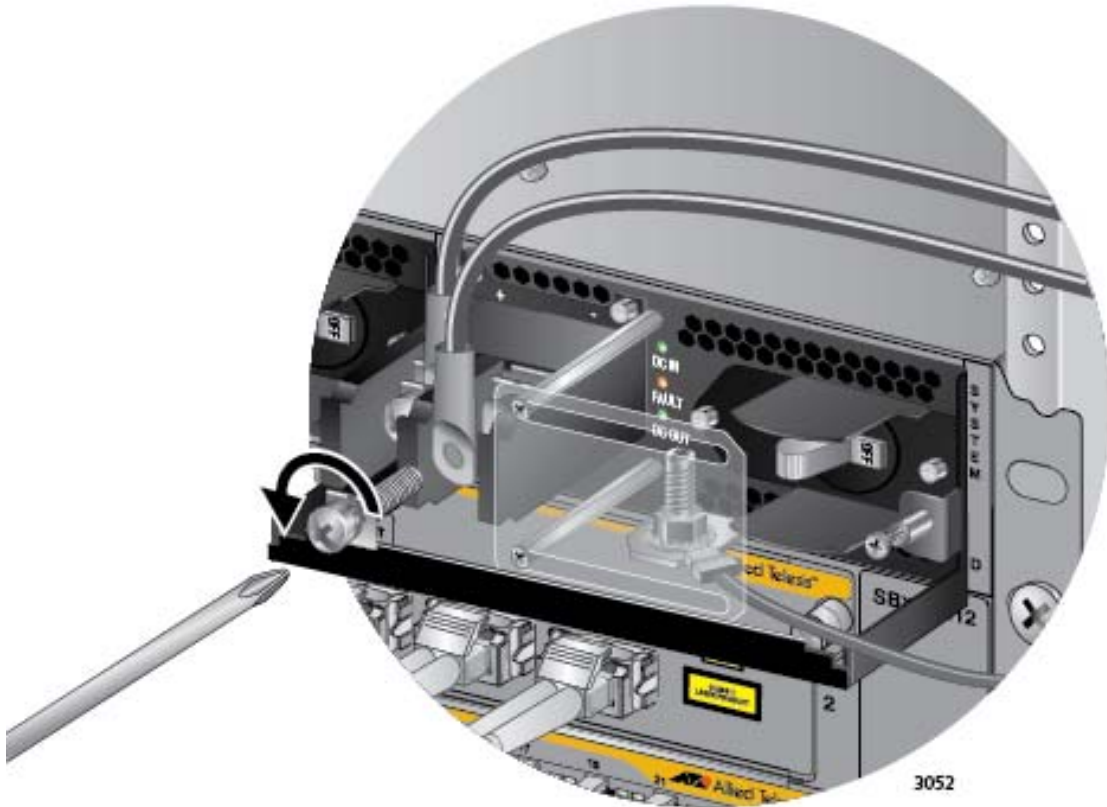

Figure 136. Removing the Negative Lead Wire
5. Use a #3 screwdriver to remove the negative (-) lead wire from the terminal block. The negative lead wire is on the right. Refer to Figure 136 on page 220.